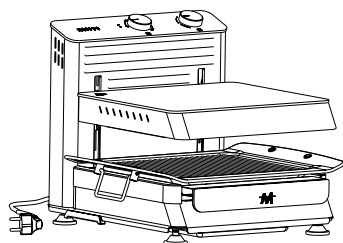
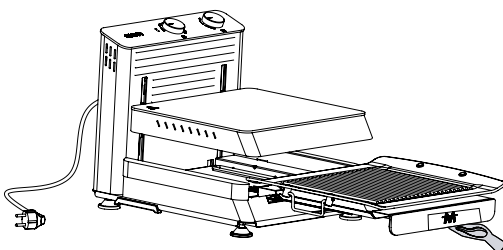

Figure 13
Figure 14
- After completing the cooking process with the product, turn the power switch located at the back of the product to the (0) position and unplug the power cord from the outlet.
- When you are sure that the product has cooled down, hold the handle and pull it towards you (Figure 13) and remove the tray and grill inside the product (Figure 14).